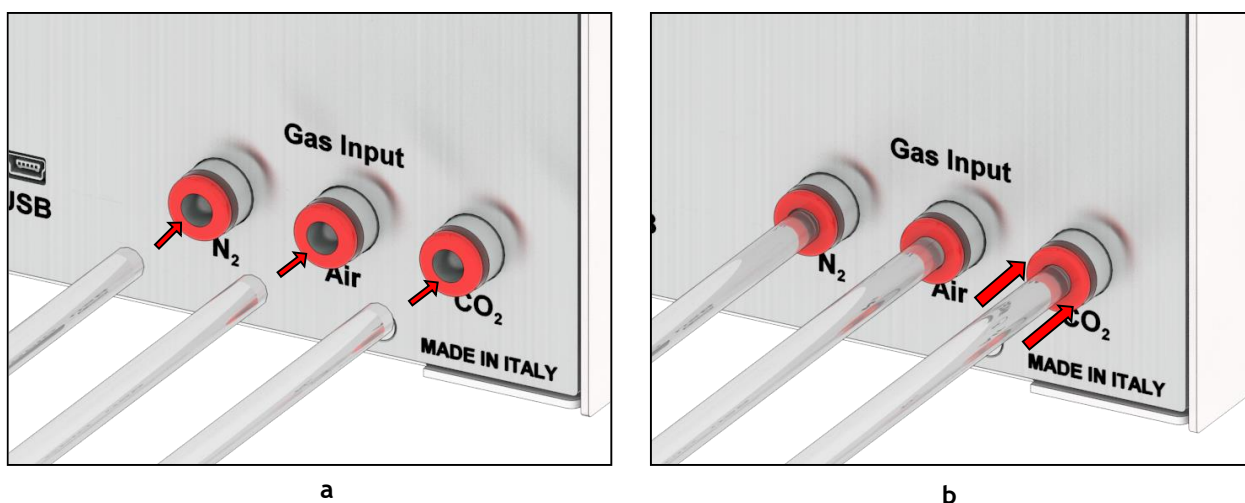

Figure 11. How to connect (a) and disconnect (b) tubings from push to fit connectors.
3. Connect N₂, Air and CO₂ supply to the corresponding push to fit connectors on the rear panel of CO₂-O₂-UNIT-BL [0-10; 0-1] by using TUBE-A (see Figure 11 a). Set N₂, Air and CO₂ pressure at **1.4 barg** (20.3 psig).
To remove tubing from the connectors, push the red rubber ring while pulling the tubing (see Figure 11 b).